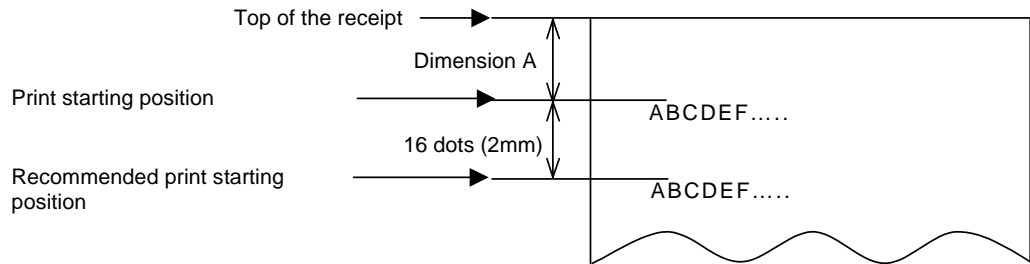

Figure 2.2.2 Print Starting Position
9) Print starting position (Dimension A in Figure 2.2.2):
- 3) Cutting position: See Figure 2.2.2